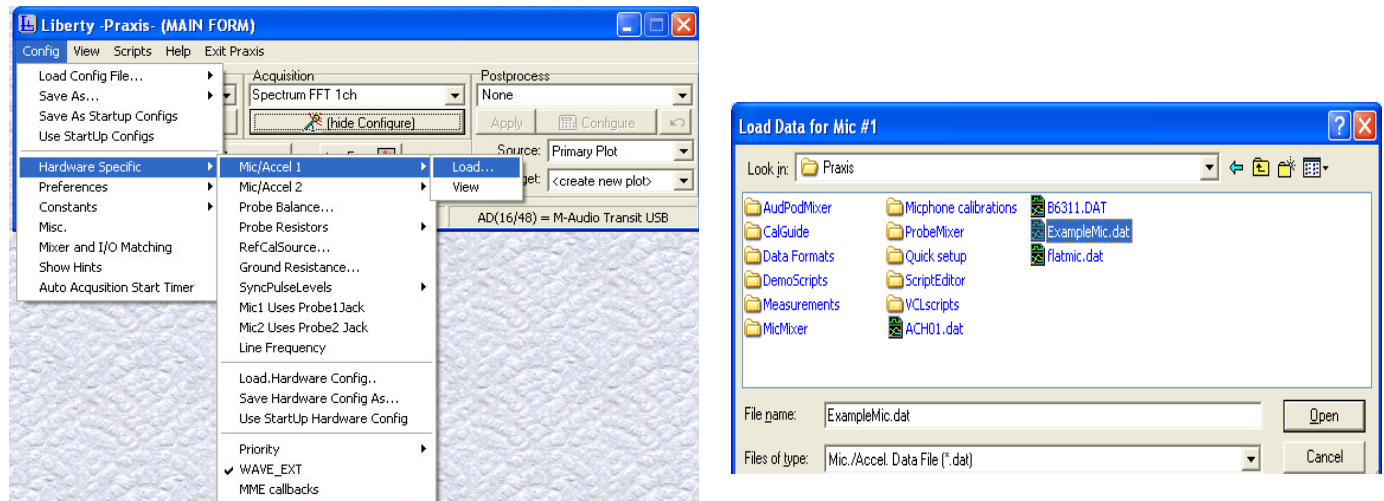

Figure 2: Load microphone calibration file.
6. **Before starting the AudioPass module** you need to load the microphone calibration file you will be using during production testing. Select **Config>Hardware Specific>Mic/Accel 1>Load...** to load the microphone calibration file. If you do not have a calibrated microphone, skip this step. If a calibration file (normal calibration files end in Example.dat) was supplied with your microphone, copy it to the **C:\Program Files\Praxis** directory. Then load the calibration file into Praxis by going to the Main Form, select **Config> Hardware Specific> Mic/Accel 1> Load** and load your file (See Figure 2). **If your microphone doesn't have a calibration file, but you know its characteristics**, you can use Windows Notepad to open and edit the "Example.dat" file and resave it with your microphone's name. See [http://www.libinst.com/example\\_mic\\_data.htm](http://www.libinst.com/example_mic_data.htm) for details.